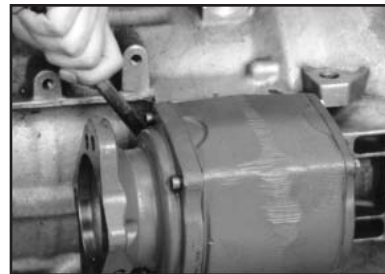

Figure 6
- Use self-locking nuts provided with PTO (**Fig. 6**).